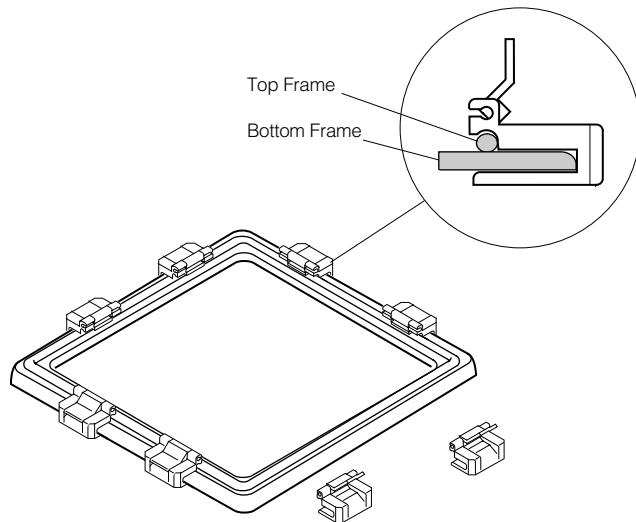

Fig. 8. Clamping the drying frame.
- Clamp the top frame to the bottom frame using two clamps per side. Before positioning a clamp, make sure the latch is up. Slide the clamp over the edge of the cellophane and onto the bottom frame until it is seated over the top frame (Figure 8). Push the latch down to lock it in place.